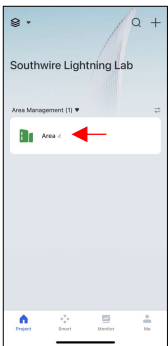

Figure 1
3. Make sure the fixture/sensor is powered on. Press the “Area” button underneath “Area Management” to add sensors. *See Figure 1.*